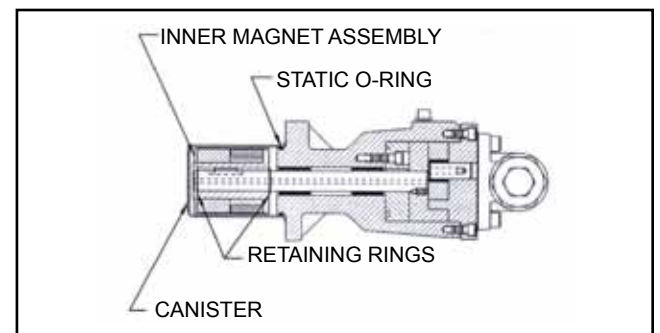

FIGURE 13
3. Remove the external retaining ring (closest to the end of the shaft) and slide off the inner magnet assembly (See Figure 13). Do not forget this is a very strong magnet. If pump disassembly is required, remove second external retaining ring.